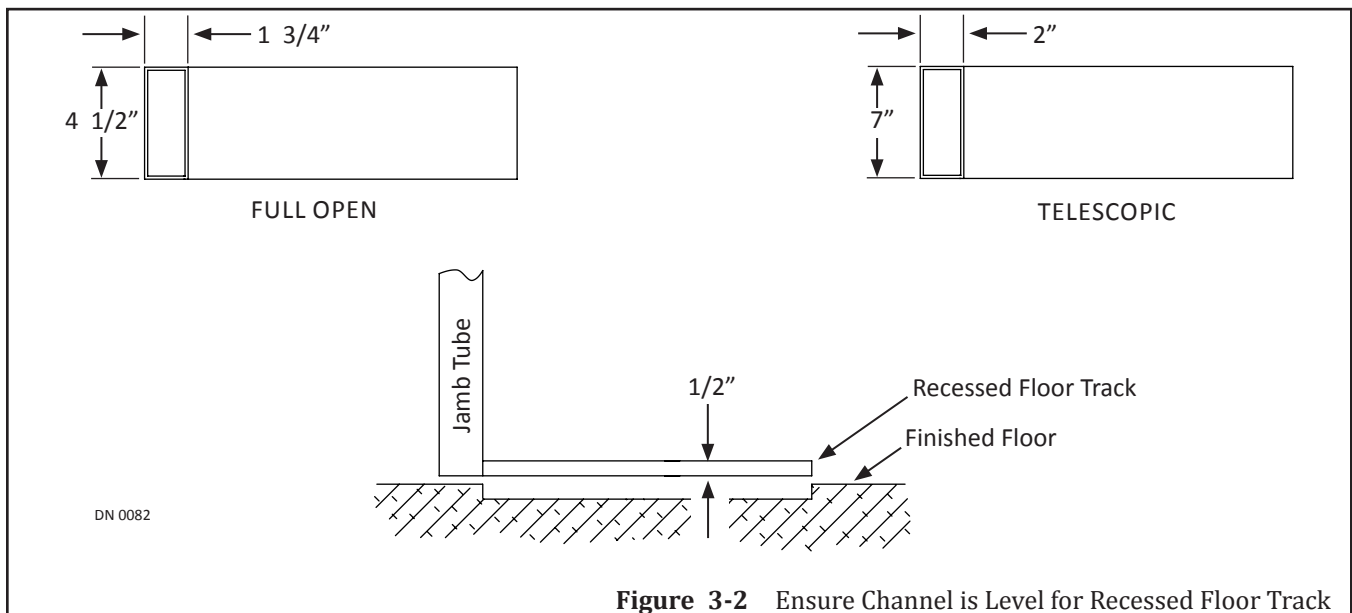

Figure 3-2 Ensure Channel is Level for Recessed Floor Track
3. If required, ensure recessed channel is level across entire length of Floor Track. Please see Figure 3-2.